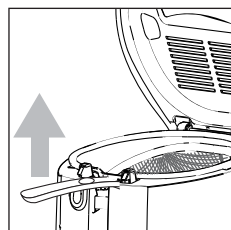

fig. 3
- Remove the basket by pulling it upwards (fig.3).
2. Place the basket into the frying bowl in a raised position (fig. 3) by slotting the support at the end of the handle into the rim at the front of the frying bowl. Close the lid by gently lowering it down until the catches can be heard clicking into place. Always close the lid before lowering the basket in order to avoid hot
1. Open the lid of the fryer and remove the basket (fig. 3).